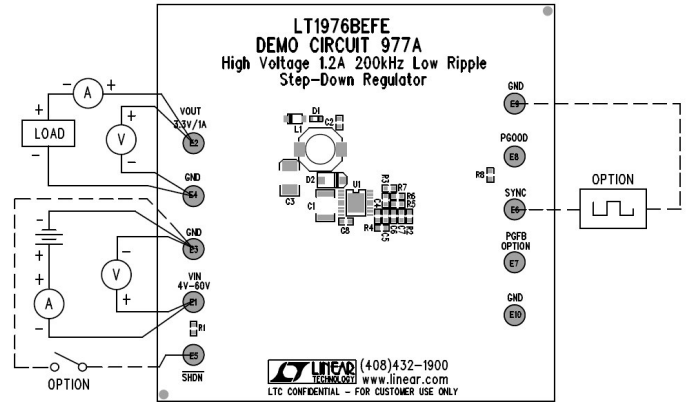

Figure 1. Proper Measurement Equipment Setup
Demonstration circuit 977 is easy to set up to evaluate the performance of the LT1976B. Refer to Figure 1 for proper measurement equipment setup and follow the procedure below:
1. Connect the power supply (with power off), load, and meters as shown in Figure 1.